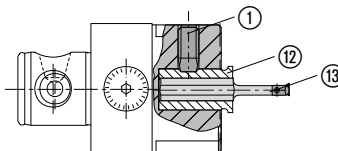

fig. 7
To secure the reducers ⑫ for fitting small turning tools of HSS ⑬ and hard metal as well as small tool holders with replaceable inserts ⑬, screw the set screw ① in the slide. Tightening torque 8 Nm (70.8 in.lbs.) (fig. 7).